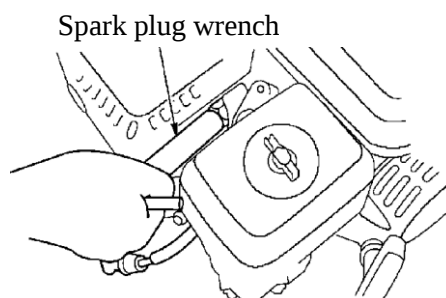

Fig. 14a
- Use a spark plug wrench to remove the spark plug. (Refer to Fig. 14a.)